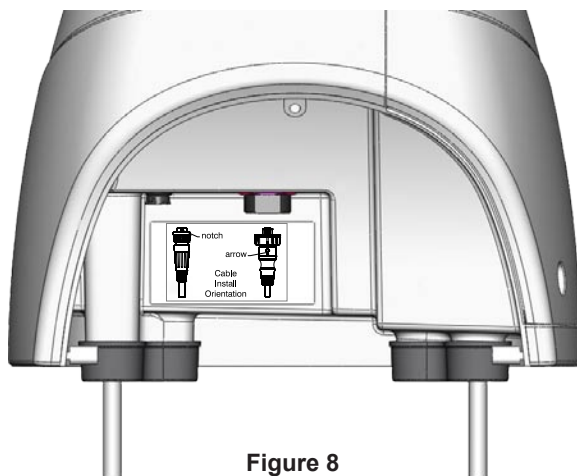

Figure 8
1. Align the notch and locking ring on the power cable to the power connector. Press the 2-pin power cable to the power connector and the RJ-45 marine network cable to the RJ-45 socket. Turn the power cable locking ring clockwise until it stops. Tighten the RJ-45 locking ring clockwise until it is firmly sealed. (Figure 8)